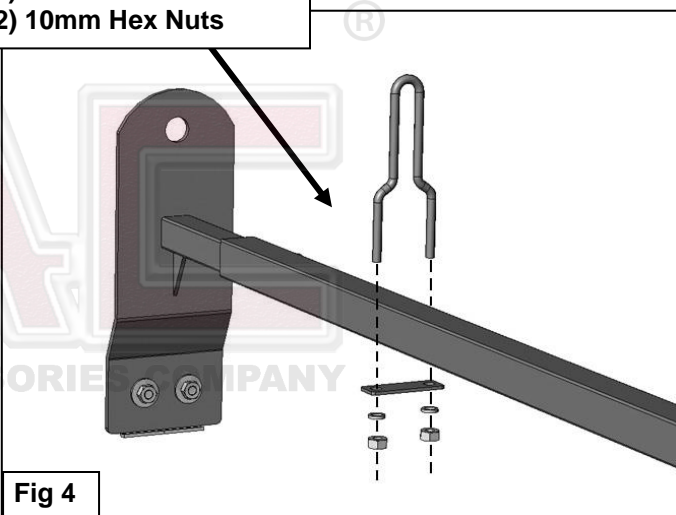

Fig 4
- Select (1) Load Positioner U-Bolt and (1) 2-Hole Clamp Plate, **(Figure 4)**. Slide the U-Bolt down and over the Outer Cross Bar. Secure the Positioner to the Cross Bar tube with the 2-Hole Lock Plate, (2) 10mm Flat Washers, (2) 10mm Lock Washers and (2) 10mm Hex Nuts. Adjust Load Positioner location and tighten hardware.